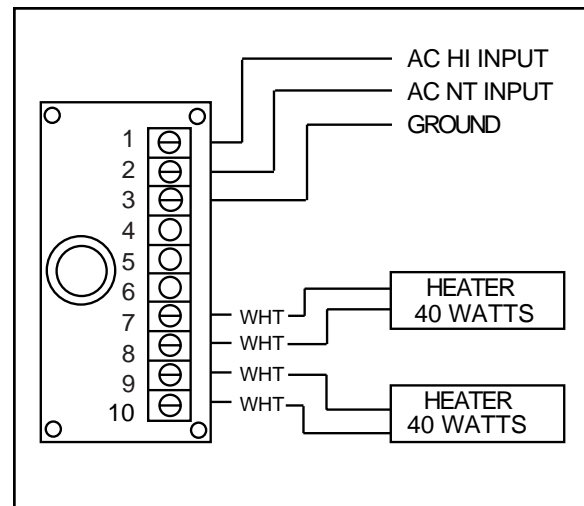

Figure 5. HK8000/HK8024 Heater Kit Wiring Diagram
3. Press the PC board assembly into the four (4) holes provided in the tilt table bracket.
4. Wire according to the diagram shown in Figure 5.